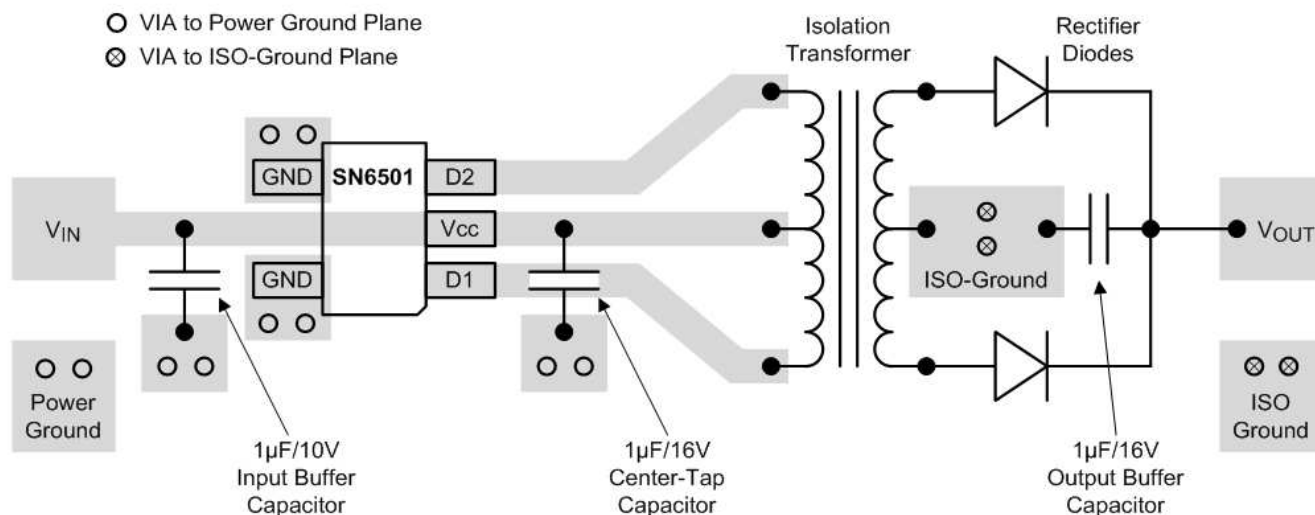

图 57. Layout Example of a 2-Layer Board (SN6501)
- The optimum placement is closest to the  $V_{\text{IN}}$  and GND pins at the board entrance to minimize the loop area formed by the bypass-capacitor connection, the  $V_{\text{IN}}$  terminal, and the GND pin. See 图 57 for a PCB layout example.